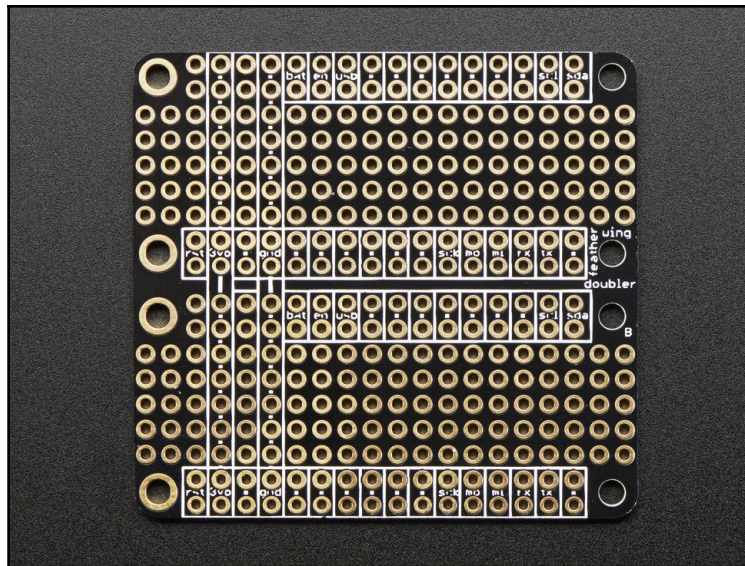

Figure 4.3: The FeatherWing Doubler PCB. Image courtesy of Adafruit Industries—<https://www.adafruit.com>
1. Take the **FeatherWing Doubler** (Figure 4.3). The FeatherWing Doubler PCB comes with the following things: